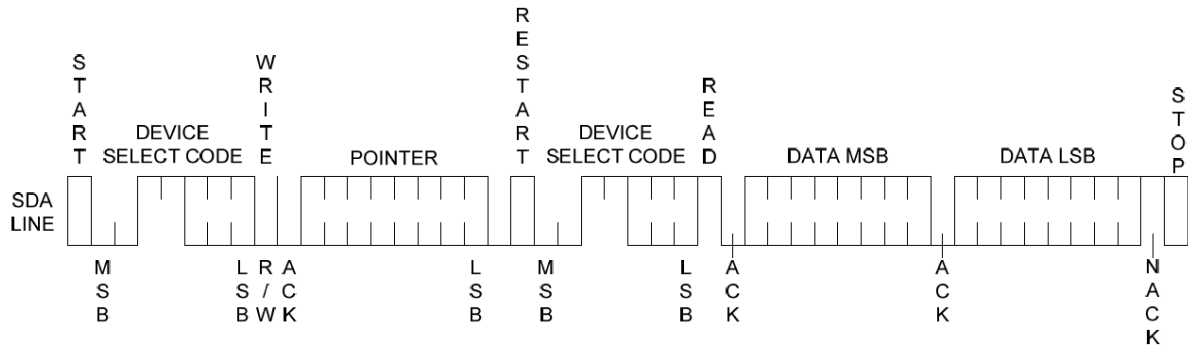

Figure 18. Pointer Write Register Word Read
2. If the pointer register need to be set, then a Device Select Code byte, Pointer byte, RESTART, and another Device Select Code byte with R/W bit is set will accomplish a Read command. See the Figure 18. The Data byte transfers the MSB first. At the end of a Read, the master can send NACK and STOP to terminal the reading operation.